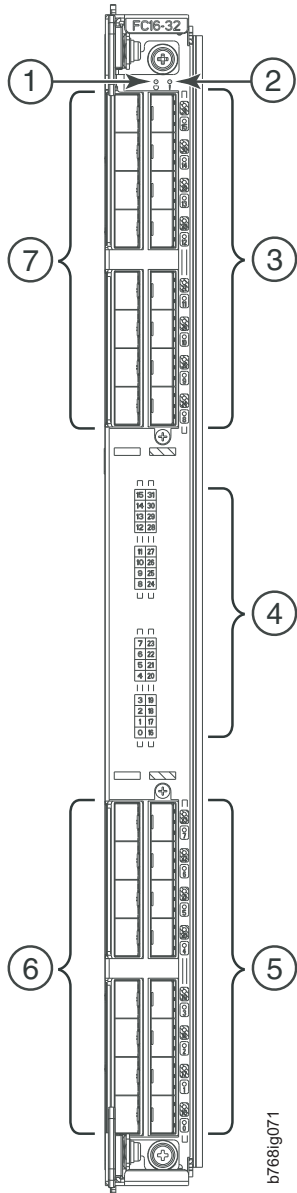

Figure 48. FC16-32 port blade
- Figure 48 on page 162 shows an FC16-32 port blade